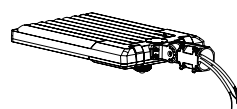

Fig 3
Step 3: Install the bracket on the fixture and tighten fasteners. (Fig.3)